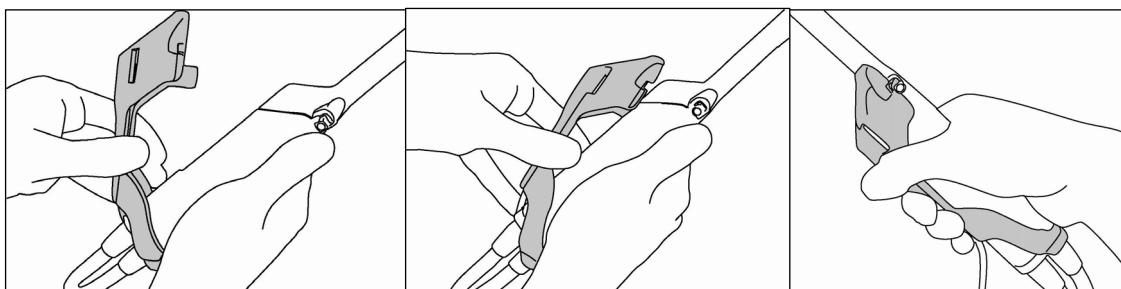

Fig.7 How to attach the Magnetic sensor attachment
- 3) Attach the Magnetic sensor attachment to the probe as shown in Fig.7